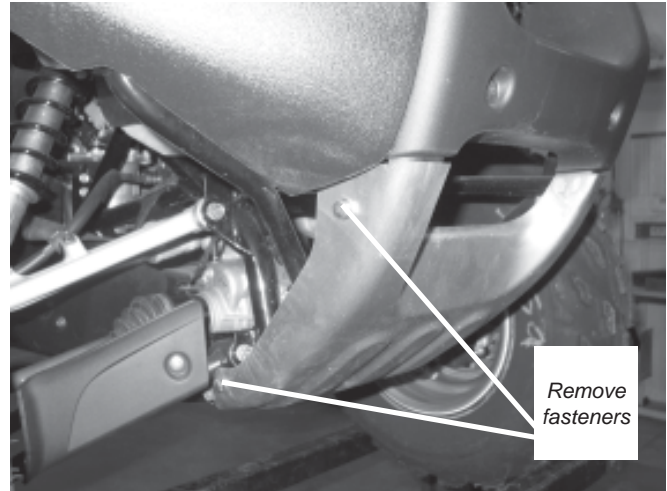
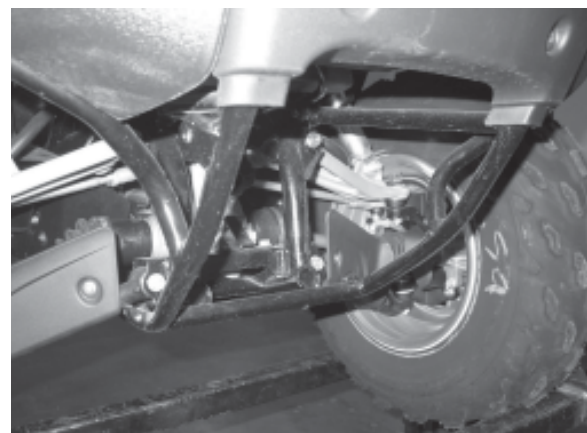

Figure 1
Figure 9b
1. Remove the front aluminum skid plate on the vehicle, as shown in Figure 1. Save the fasteners as they will be used later to reattach the skid plate.
1. Remove the front aluminum skid plate on the vehicle, as shown in Figure 1 of previous section. Save the fasteners as they will be used later to reattach the skid plate. Figure 9b shows the vehicle frame where the plow mount assembly will be mounted.